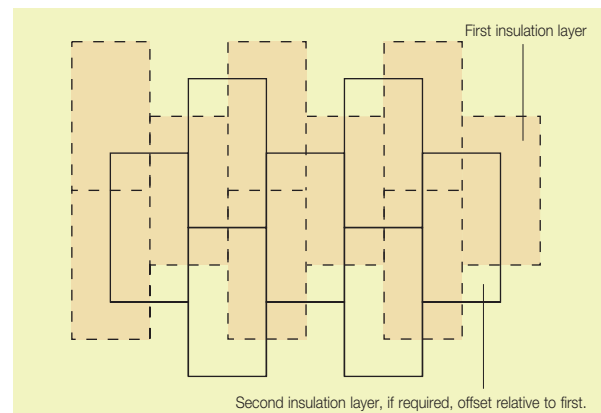

Figure 2 – Offsetting of Multiple Insulation Layers
- If two layers of insulation are required, they should be horizontally offset relative to each other so that, as far as possible, the board joints in the two adjacent layers do not coincide with each other (see Figure 2).